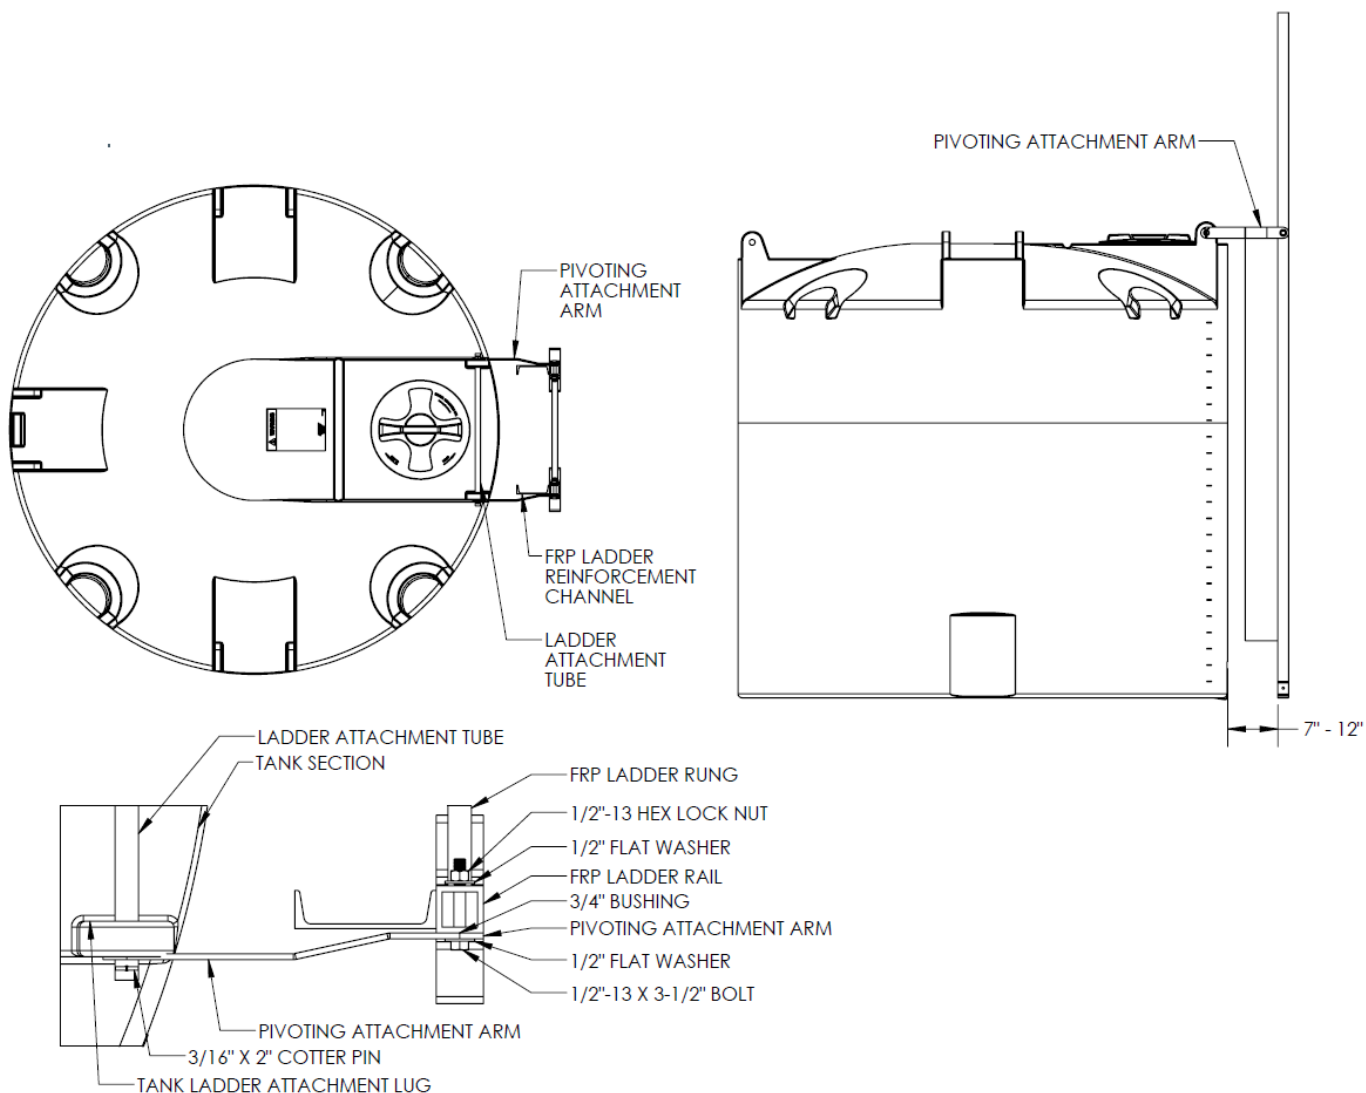

Figure 8.6
8.6.1 FRP ladders are designed in accordance with OSHA 1910.27 and are to be mounted next to the tank on a concrete pad at the same elevation as the bottom of the tank. The concrete pad area that the ladder mounts to must be of sufficient size as to comply with OSHA standards regarding proper access to and from the ladder. This should be determined by the construction site engineer based on the specific application. The pad must be of sufficient size to allow proper attachment of 5/8" anchor bolts (check with anchor bolt manufacture for embedment and edge distance required). The ladder mounting system is designed to allow for tank expansion and contraction due to temperature and loading changes. Using the assembly drawing and table shown in Figure 8.6, verify that all parts are present and assemble accordingly.